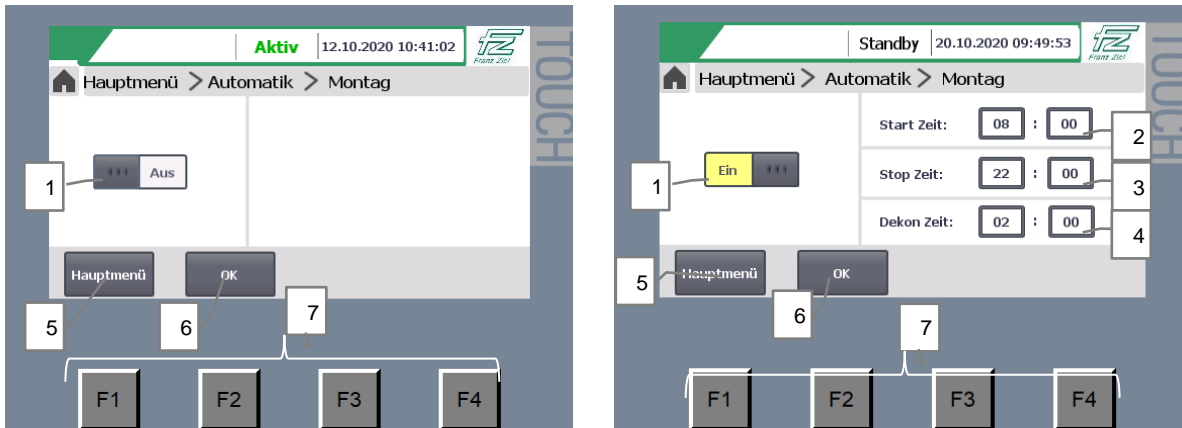

Fig. 5-9: Fully disable a weekday or set the operating times for a weekday
- ✧ Weekday “Monday” (1) is tapped in the weekly clock timer.
- The screen for setting the operating time is shown (see Fig. 5-9, Page 30):